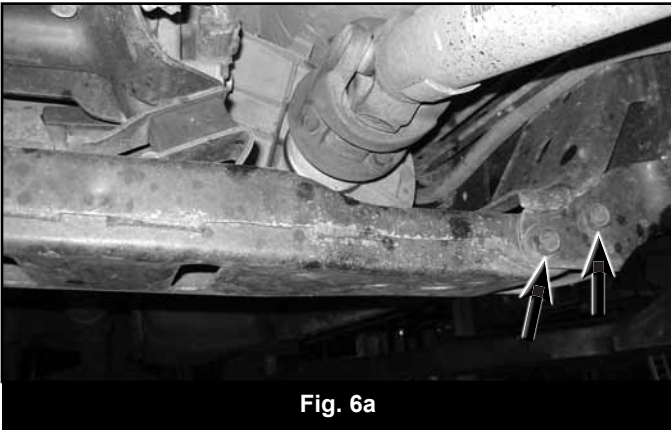

Fig. 6a
13. Remove the 4 bolts that hold the transmission crossmember into position. Mark the front side of the crossmember and remove from vehicle. (Fig 6a, 6b)
30. Remove the 4 bolts that hold the transmission crossmember into position (Fig 6a).